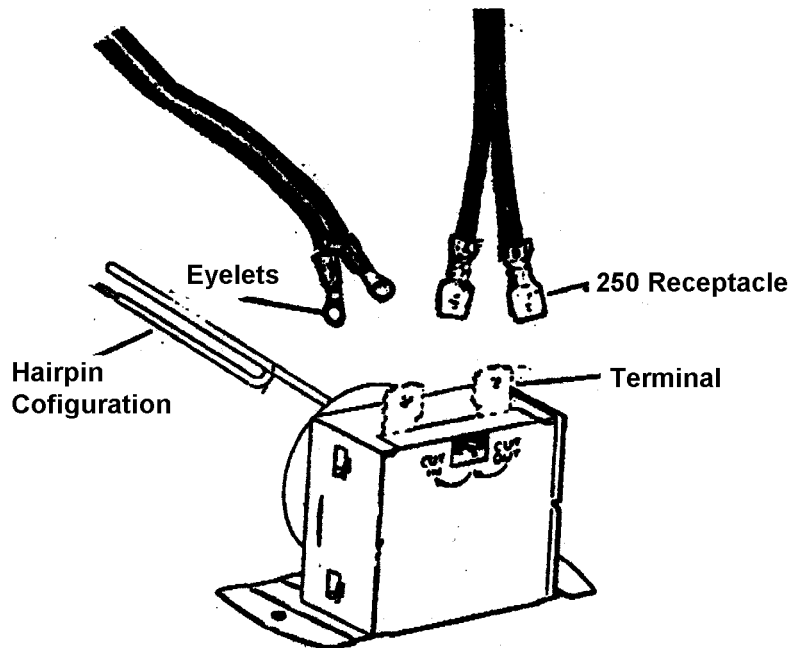

Figure 1
1. Terminals that require push on leads, (See Fig. 1) instead of eyelet type leads.
2. Power element that has a hairpin type configuration instead of a coiled pigtail. (See Fig. 1)